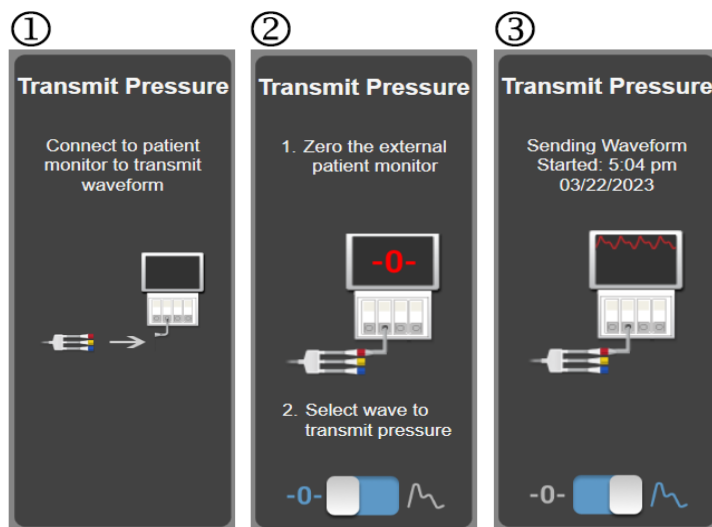

Figure 11-10 Transmit arterial pressure waveform to patient monitor
- 4 Zero patient monitor and confirm 0 mmHg is displayed. See ② in figure 11-10. Refer to the patient monitor instructions for use.
- 5 Toggle to the **Transmit Waveform** icon  to begin pressure signal output to the patient monitor. See ③ in figure 11-10.
- 6 A “**Sending Waveform Started:**” message with the timestamp is displayed when the live waveform is being transmitted to the connected patient monitor. See ③ in figure 11-10.